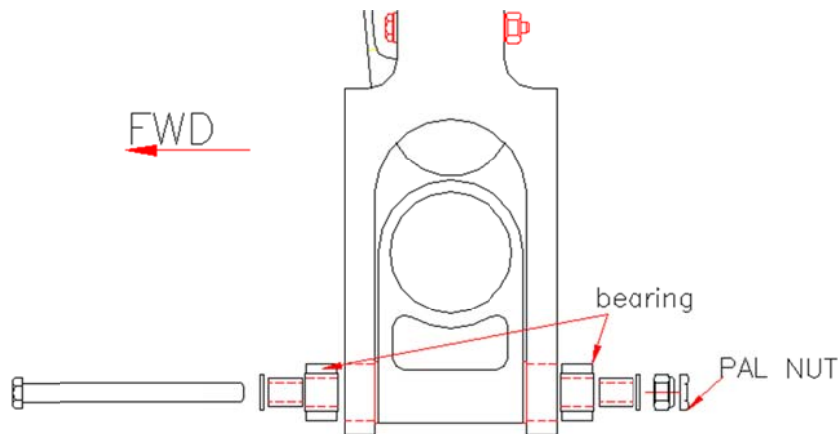

FIGURE 2 UNINSTALLATION
- B.2) Uninstall the PAL NUT and the self-locking nut. Carefully remove the bolt. Refer Figure 2. Remove existing hardware.
NOTE: The exploded views (Figures 2 and 3) are for clarification only. It is not required to remove the bearings and bushings from the fork.